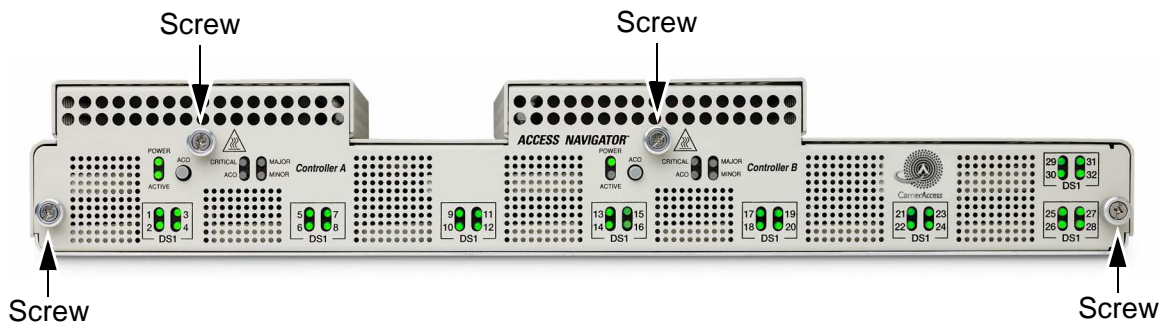

Figure 6-37. Location of Front Panel Cover Screws
2. Loosen captive thumbscrews on front cover (see Figure 6-37).